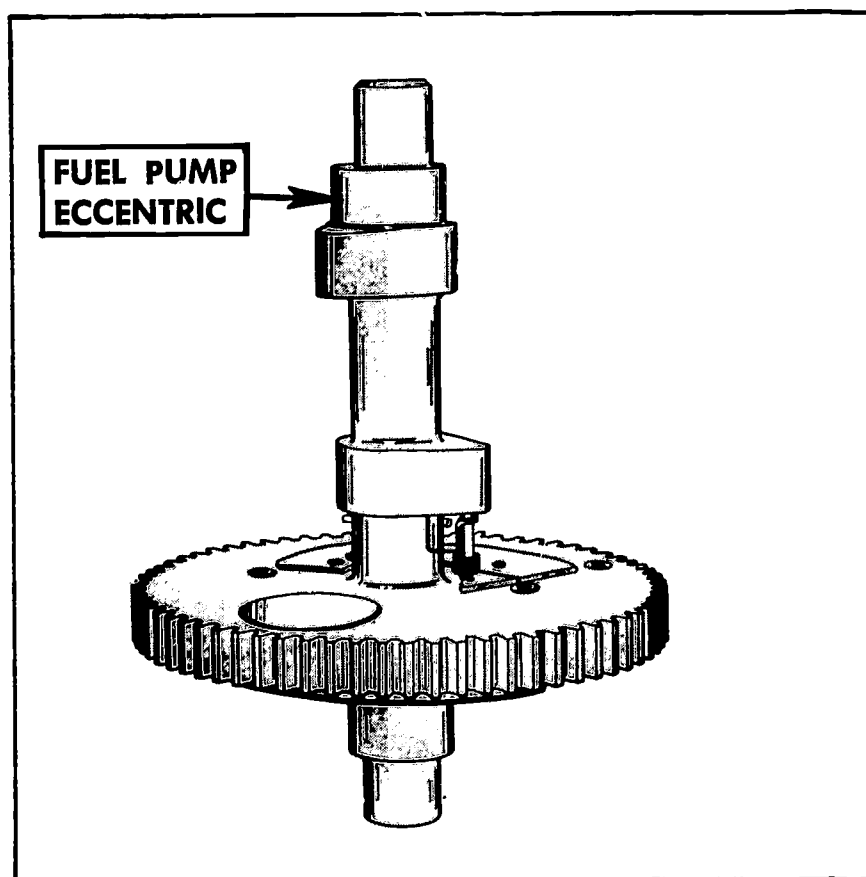

FIGURE 290. Points at which the camshaft should be measured.
7. *Measure the camshaft dimensions (Figure 290) and check against the tolerances given in your repair manual.*